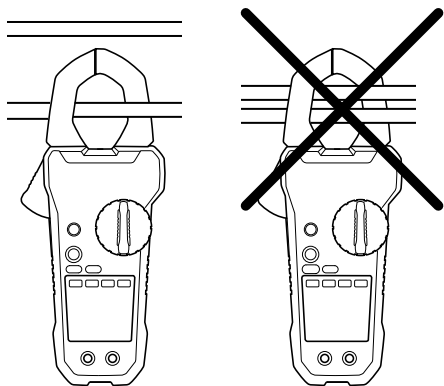

Figure 5.1 Correct and incorrect set-up
When measuring current using the clamp jaws, only one conductor should be enclosed by the jaws—refer to Figure 5.1.
3. Press the trigger to open the clamp jaws. Fully enclose one conductor—refer to Figure 5.1. For optimum results, center the conductor in the jaws.